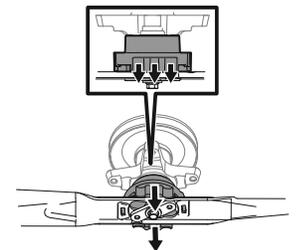

Figure 51
6. There will be an audible click when the blade is properly locked in place. See Figure 51.